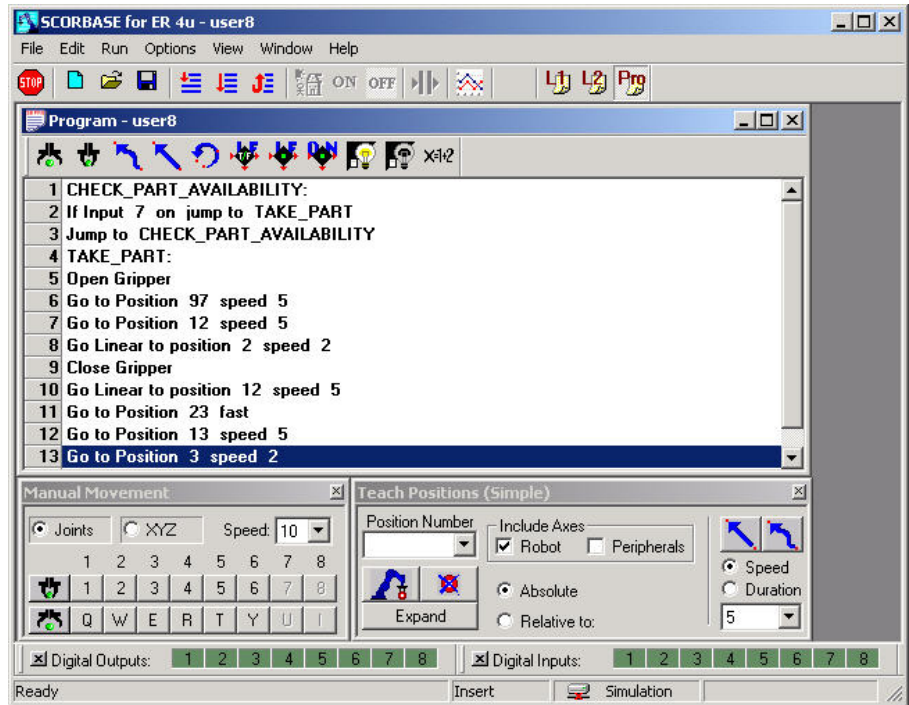

Figure 8-4
- Right-click the Input 7 box and choose **FORCE**. A checkmark will appear, as shown in Figure 8-4. This will now allow you to simulate receiving an input signal.